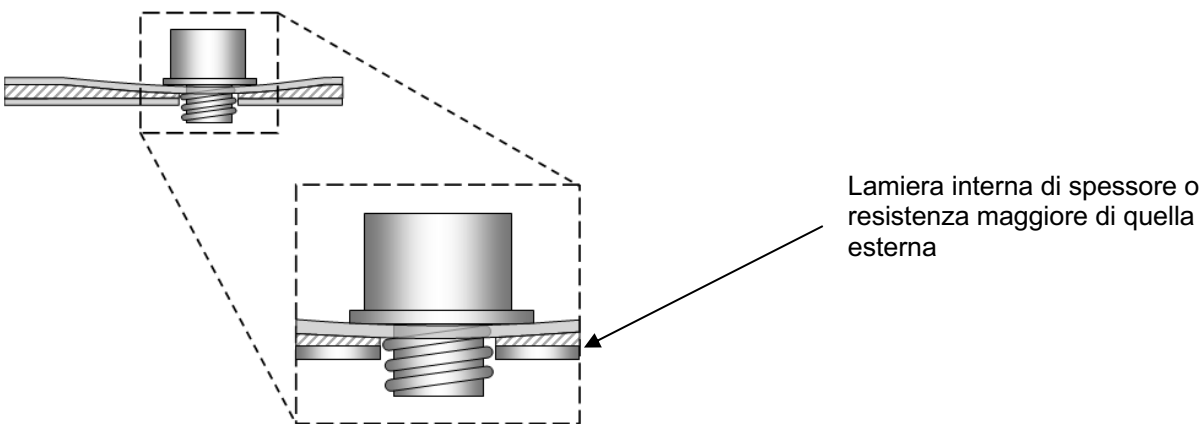
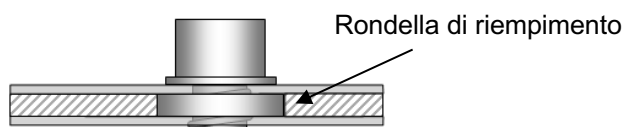

Fig. 12
Fig.13
In addition, if at the holes there is a double inner sheet metal with excessive space, in order to avoid the dangerous deformation of the sheet metal with the consequent visible bruise (Fig.12), it is recommended to proceed with one of the following two solutions for the fixing of the bolts (in case it is not possible another location to avoid double inner sheetmetals or you cannot outdistance the internal plate by bending it): (A) filling washer (not supplied) applied inside and positioned between the two plates (fig. 13) or (B) spacer (not supplied) applied externally in a counterbore formed in the sheet metal. The counterbore should be of a diameter that doesn't exceed the maximum dimensions of the housing, so that the same may hide the counterbore hole (fig. 14)..